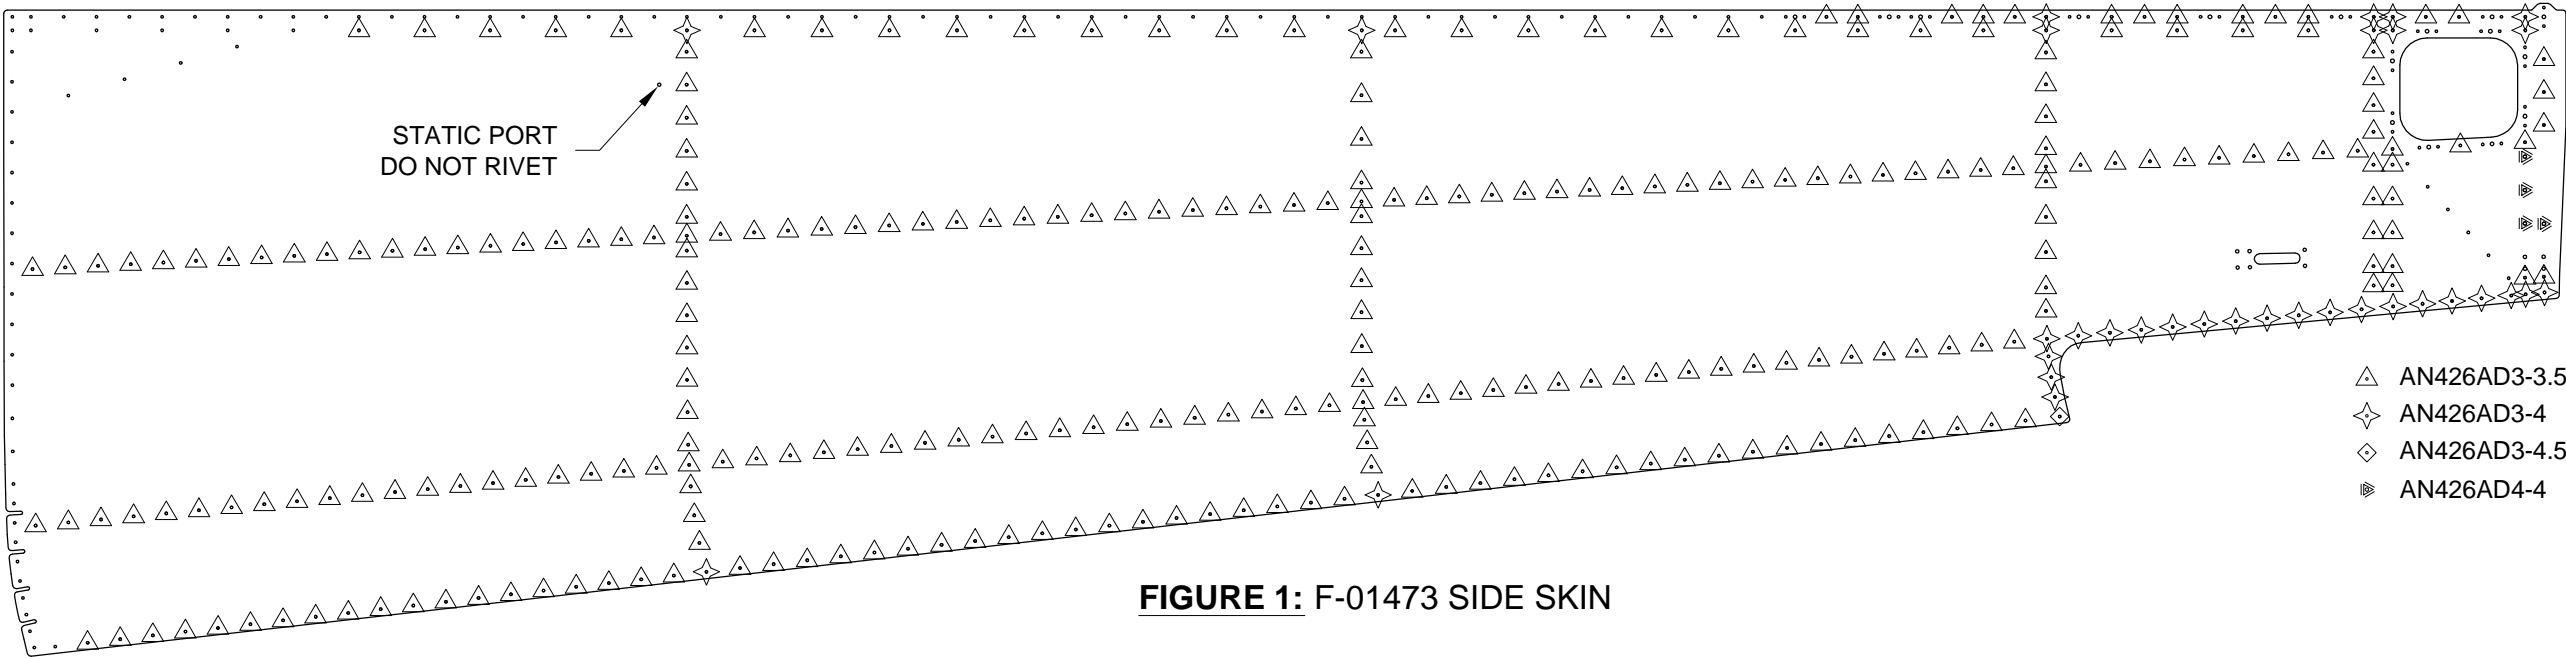

FIGURE 1: F-01473 SIDE SKIN
Step 1: Rivet the F-01473-L & -R Aft Fuse Side Skins to the F-01478 Bottom Skin, F-01479 Aft Bottom Skin, F-01486A-L & R, F-01486B-L & -R Stiffeners, and the F-01407, F-01408, F-01409, F01410, F-01411 and F-01412 Bulkheads as shown in Figure 1.
Step 1: Rivet the F-14113-L & -R Rudder Stops to the Aft Fuselage Assembly as shown in Figure 1.